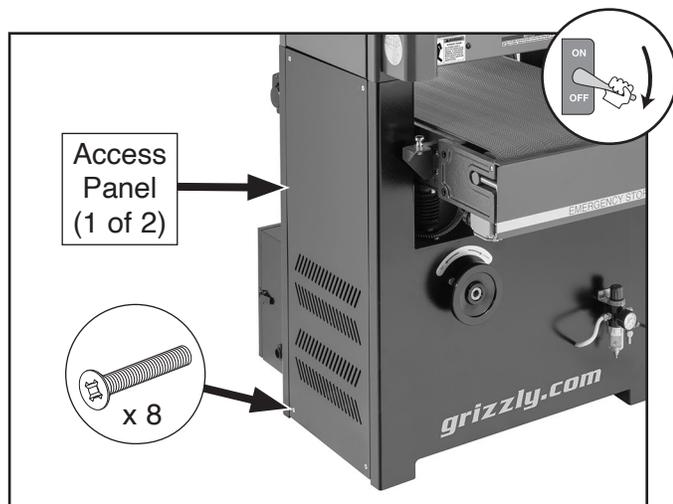

Figure 57. Location of access panels and screws.
3. Remove (8) screws shown in **Figure 57** to remove left and right access panels.